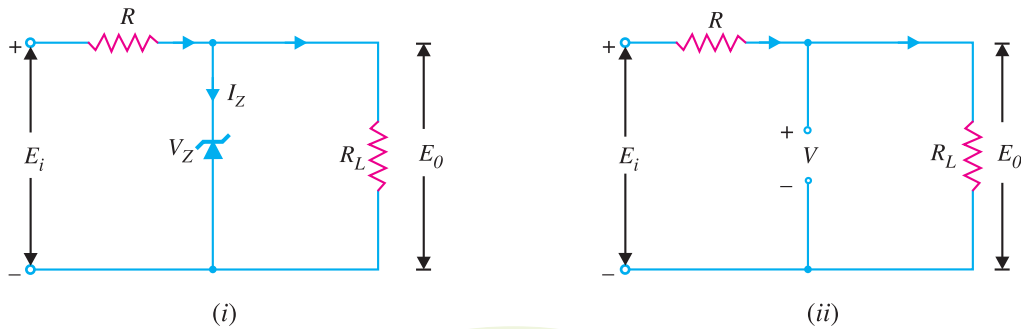

Fig. 6.57
1. E_i and R_L fixed. This is the simplest case and is shown in Fig. 6.57 (i). Here the applied voltage E_i as well as load R_L is fixed. The first step is to find the state of zener diode. This can be determined by removing the zener from the circuit and calculating the voltage V across the resulting open-circuit as shown in Fig. 6.57 (ii).